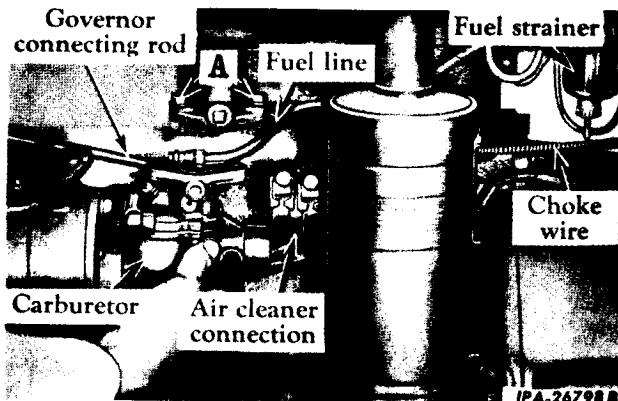

Fig. 3 - Removing the Carburetor (Zenith - 68 x 7-7/8").
6. Remove the nuts and lock washers which secure the carburetor to the manifold, and lift off the complete carburetor (Fig. 3).